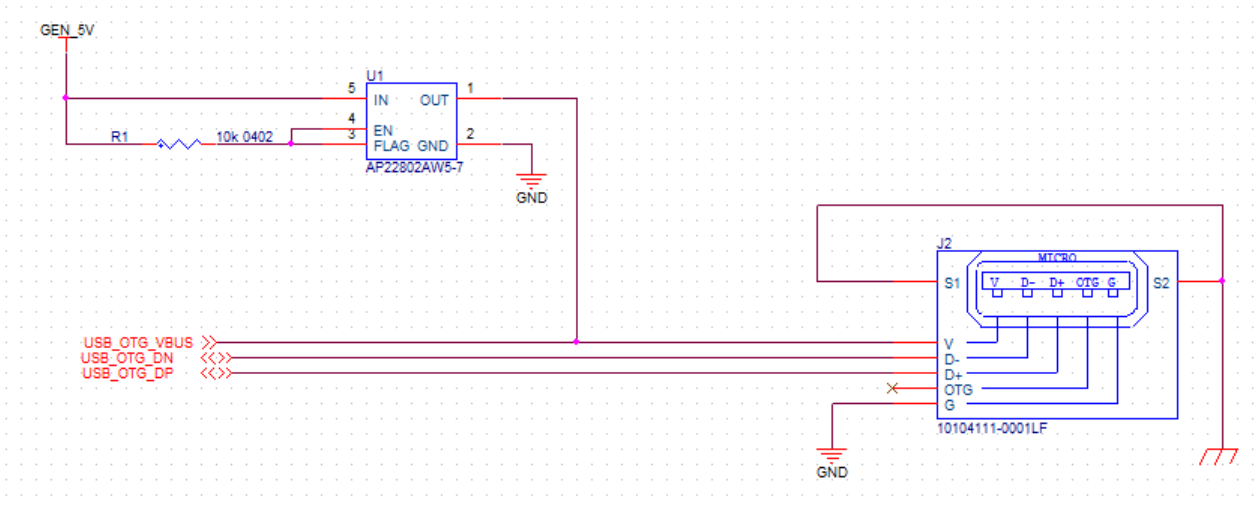

Figure 6 : USB OTG example
- The USB OTG channel on J9 (USB_OTG_DN, USB_OTG_DP) has no power protections. There is no connections with the OTG ID signal, so it can be left floating on the connector side. The OTG can be driven using a schematic like the one in the following Figure 6 (Note : U1 is optional, the power on the V+ pin of the connector is powered from a 5V with a series 33 Ω) :